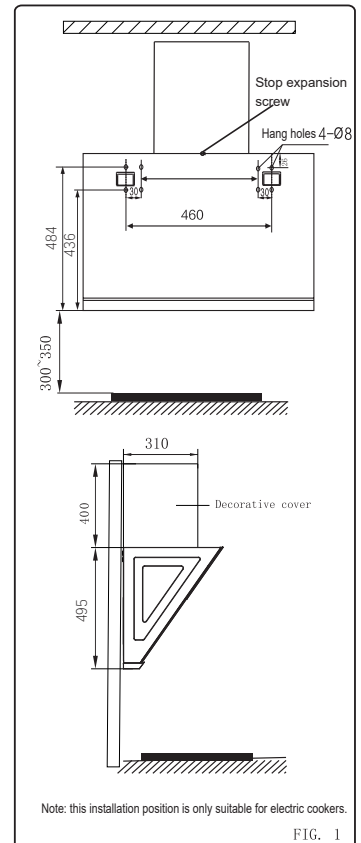

FIG. 1
1. As shown in figure 1, find out the installation position of the fastening parts (host hook board) on the wall. The position should be kept horizontal and not tilted left and right.